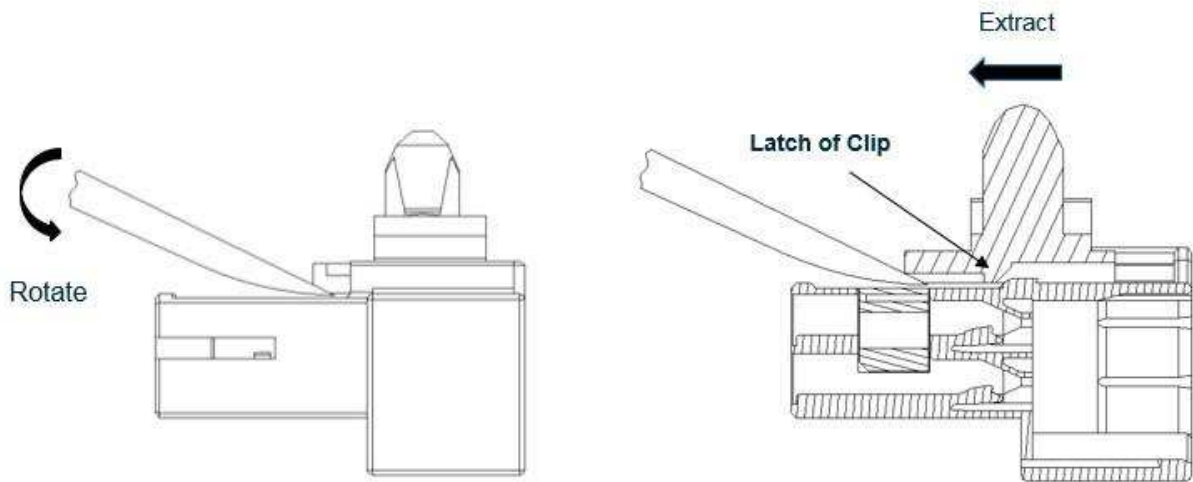

Fig. 3.
- (1) Slide the tip of the proper tool into the latch of clip so that it is under the latch of clip as shown in figure 3.
- (2) Rotate the tool to lift the latch of clip away from the mounting feature.
- (3) Extract the fully seated clip from the mounting feature while holding the tool, and then pull the clip out.